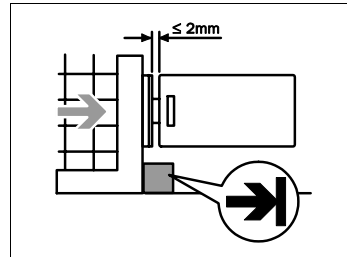

Fig. 2: Mounting
- ⚠ Do not use the safety switch and actuator as mechanical stops (see Fig. 2).
- Install additional stop for the moving part of the safety guard (see Fig. 2).